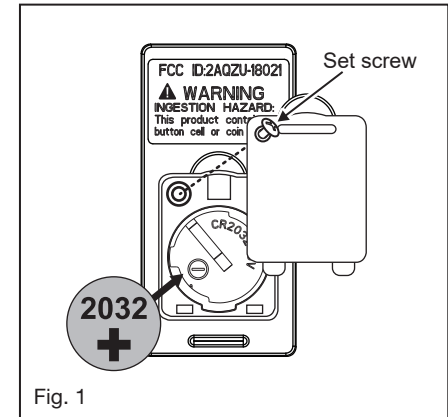

Fig. 1
1. Insert the controller into the ceiling mounting bracket with the flat side of the controller facing the ceiling (Fig. 1). For best performance, make sure the Black Antenna and WiFi Antenna, on the end of the controller, remains extended and not tangled with any of the electrical wires.
- 1 While holding the LED light kit under your fan, make the polarized plug connections: (Fig. 1)
- 1 Select a desired location. Use the wall plate to mark the location of the mounting holes. Plastic wall anchors or mounting screws are needed for this application. (Fig. 1)
Remove the panel from the transmitter and then install one 2032 battery (included). You need to use a screwdriver to open or close the battery cover. To prevent damage to transmitter, remove the battery if not use for long periods of time (Fig. 1)